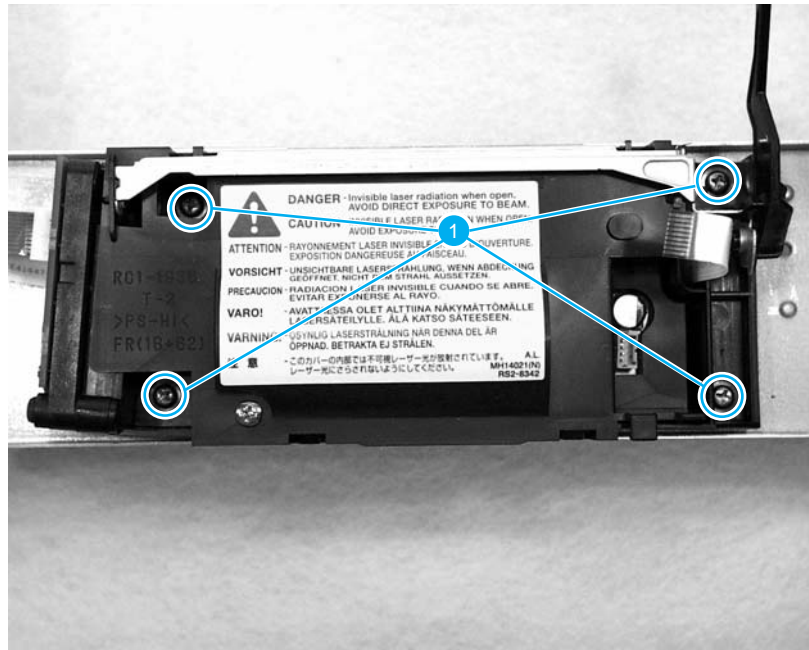

Figure 5-30.
5. Remove four screws (callout 1, figure 5-30).